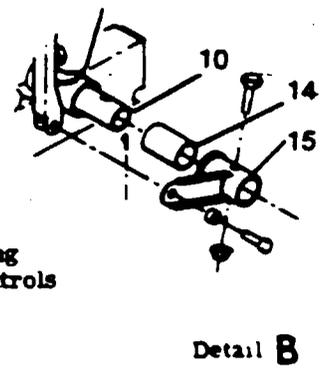

Figure 10-2. Rudder Pedals Installation
Insufficient cable tension.	See figure 10-2 for distance between firewall and pedals. Adjust cable tension in accordance with paragraph 10-11.
10-4. RUDDER PEDAL ASSEMBLY. (See figure 10-2.)
- c. Adjust cables at clevises (11) to align rudder and pedals in neutral position. 6.50 inches from firewall to pedal pivot shafts (index 6, figure 10-2). This step automatically determines cable tension because of the return springs (index 9, figure 10-2) attached to the rudder bar.